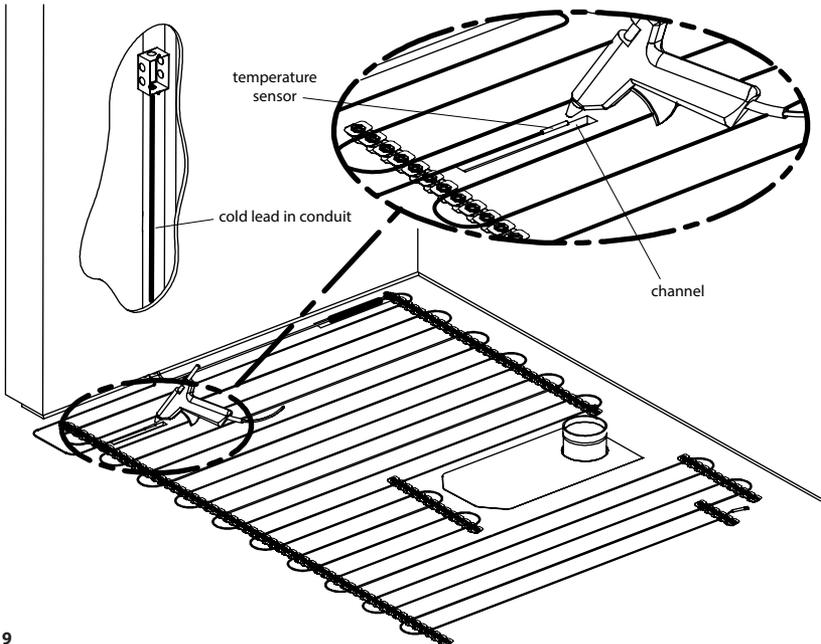

Figure 9
- Glue the sensor to the subfloor (figure 9). The sensor must be solidly fastened to the subfloor to ensure it stays in place when the cement or an equivalent binder (cement glue, ceramic glue, self-levelling cement) is applied.